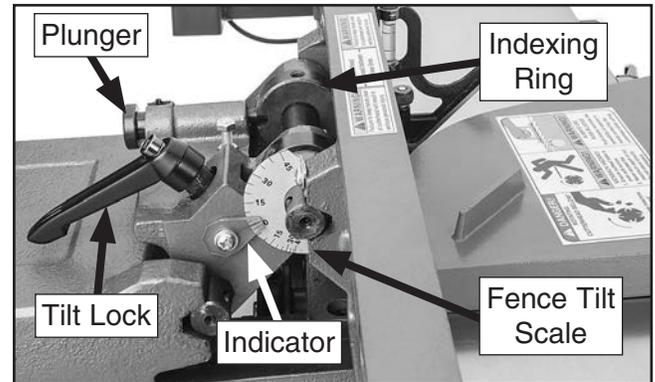

Figure 85. Adjusting fence to 90°.
2. Pull out and lock tilt plunger and loosen fence tilt lock (see **Figure 85**).
3. Using a 90° square, adjust fence to 90° position (see **Figure 85**), then unlock plunger. It should insert into indexing ring and lock fence at 90° position.